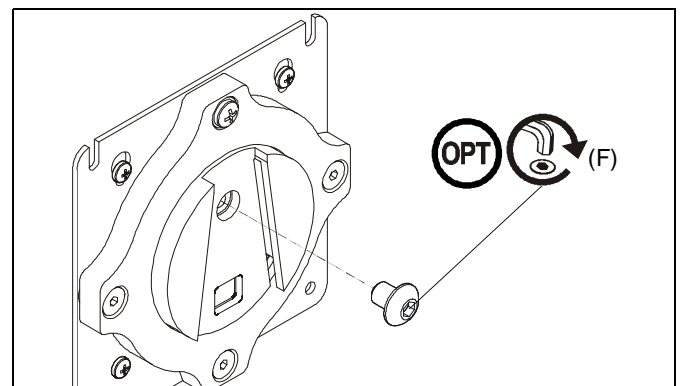

Figure 7
NOTE: (Optional) Rotational adjustment may be locked by installing rotational locking screw (F) into back of faceplate. (See Figure 7)